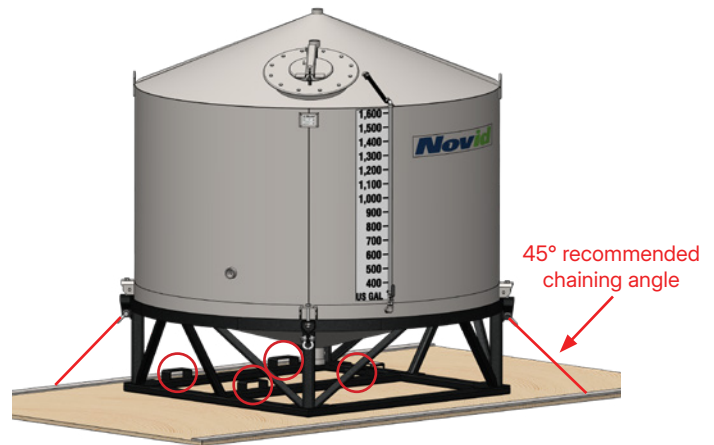

Fig. 3: forklift loading pockets & chaining angle
- Always load the stand from the side of the trailer using the forklift pockets. (See Fig. 3)
- Ensure chains are angled at approximately  $45^\circ$ . (See Fig. 3)